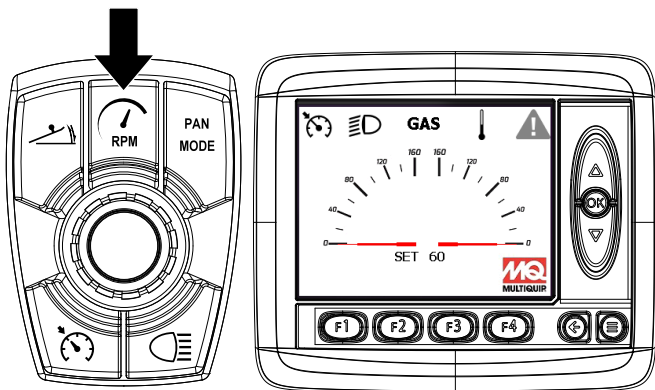

Figure 35. Digital Display (Rotor Speed)
5. Press the **RPM button** to view the **maximum rotor speed adjustment screen** on the digital display (Figure 35).